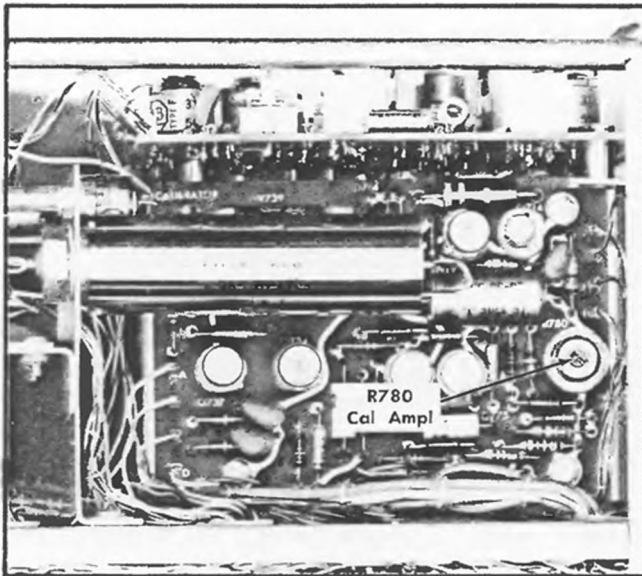

Fig. 6-30. Location of Cal Ampl adjustment (Calibrator and Regulators board).
f. ADJUST—Cal Ampl adjustment, R780 (see Fig. 6-30) for exactly the same deflection as obtained in step d.